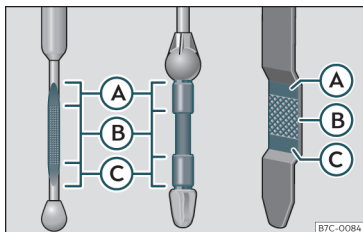

Fig. 204 Engine oil dipstick.
- Then pull it out once more and check the oil level»» **Fig. 204**. Top up with engine oil if necessary.
- When the oil level reaches at least zone »» **Fig. 204 B**, unscrew the engine oil filler cap carefully »» ⚠.
If the oil level is above area»» Fig. 204 , do not start the engine. This could result in damage to the engine and catalytic converter. Contact a specialised workshop.
The oil level must never be above zone »» Fig. 204 . Otherwise oil can be drawn in through the crankcase breather and leak into the atmosphere via the exhaust system.